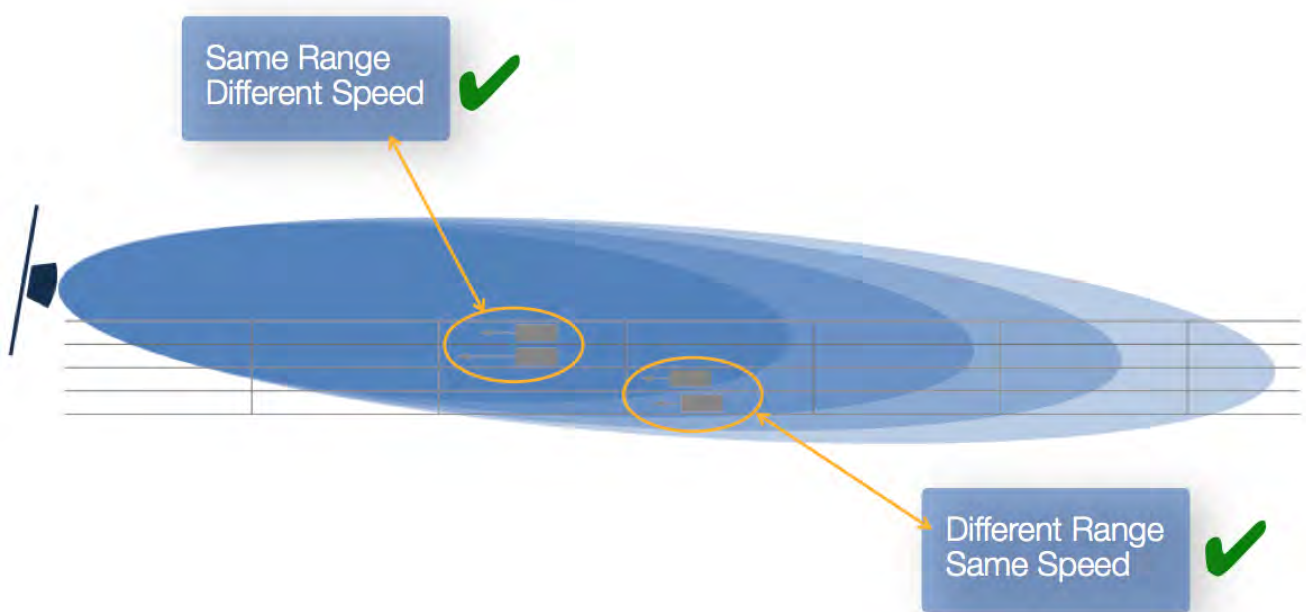

Figure 3: Object Separation Capability.
UMRR-11 can now accomplish range gate specific detection of moving and even stationary vehicles. In each of these gates (HD) a separate Doppler detection is possible, including stationary detectors. Figure 3 explains the principle.